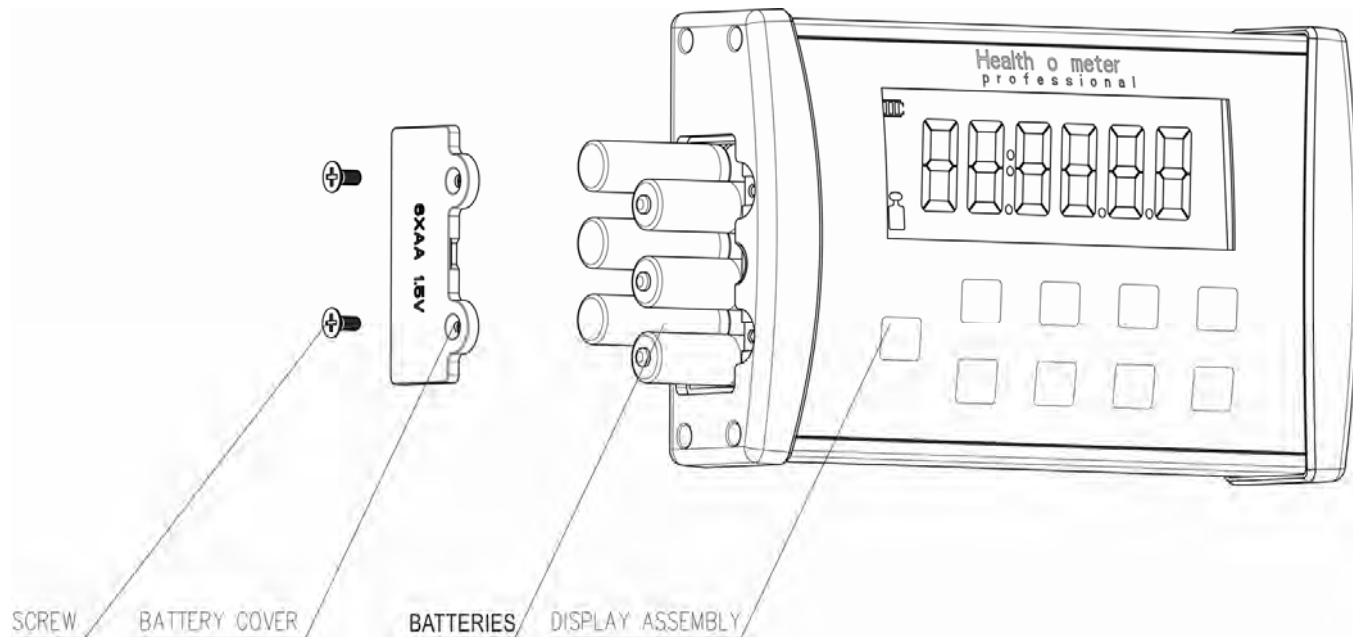

Figure 7
2. Remove the battery cover on the side of the display assembly by unscrewing the (2) battery cover screws (see Figure 7).